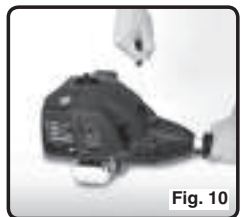

Fig. 10
5. Pull the Recoil Starter Handle sharply until the engine starts and runs (see Fig. 10).